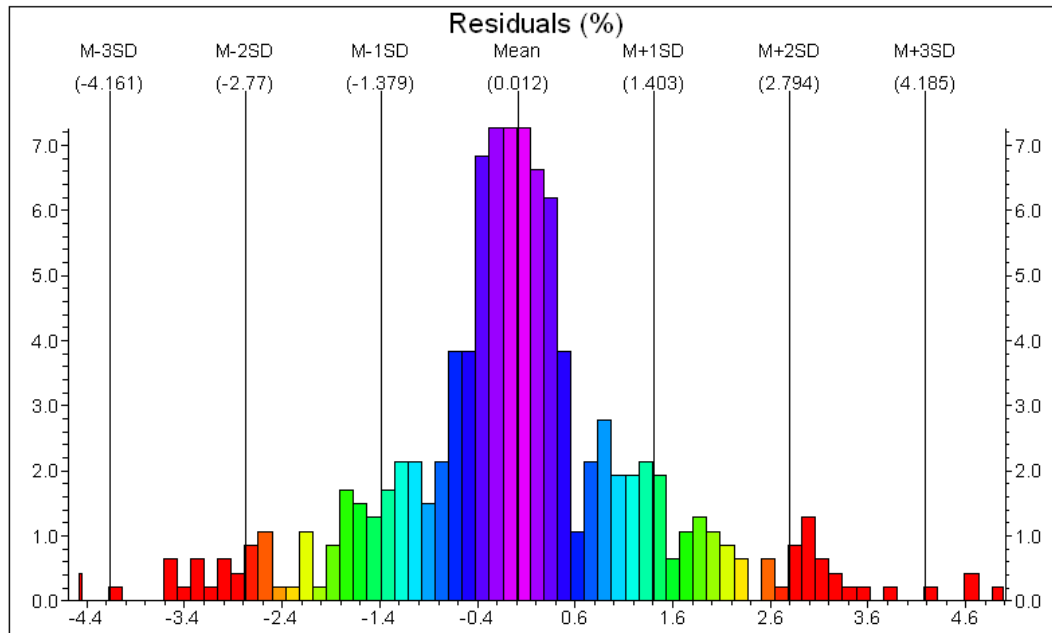

Figure 5
4. A cumulative frequency histogram (Figure 5) depicting the relative distribution of the residuals. In this example, the typical error (mean +/- one standard deviation) is 1.4 ppb. Errors between 1.4 and 2.8 ppb are atypical. Errors between 2.8 and 4.2 ppb are uncommon. Errors greater than 4.2 ppb are very rare.